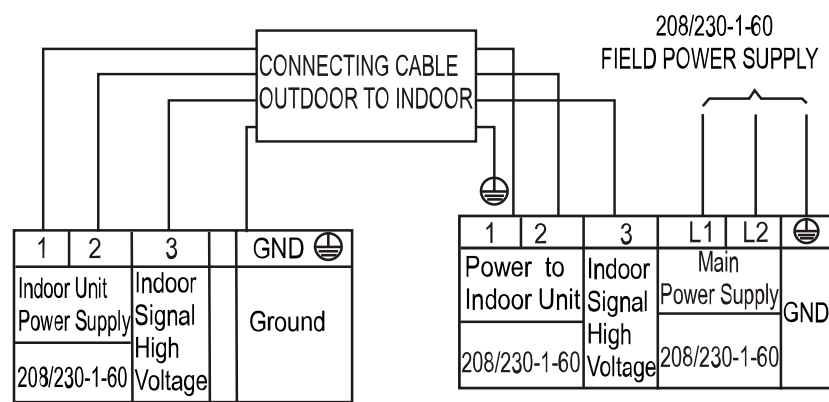

Fig. 23 — Connection Diagram
- 2. All connections between the indoor and outdoor units must be made as shown in Figure 23. The connections are sensitive to polarity and will result in a fault code.